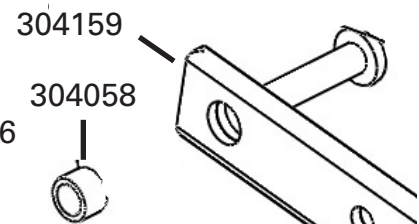

Figure 6
3. Install the 1/4" ID x 5/16" long spacer into the handle extension as shown in Figure 6 on page 4.